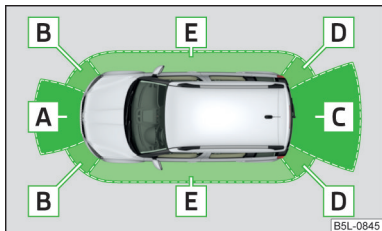

Fig. 144
Depending on the equipment, the following system versions can exist » Fig. 144.
When towing, or when another accessory is connected to the trailer socket only the areas **A** and **B** » Fig. 144 are active in the system.
- The display can be interrupted by pressing the symbol key **P** » Fig. 144 on page 132.